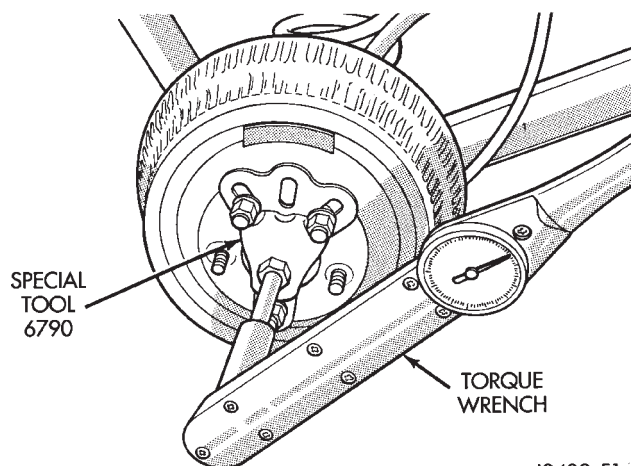

Fig. 6 Trac-loc Test
(1) Engine off, transmission in neutral, and parking brake off.
(2) Place blocks in front and rear of both front wheels.
(3) Raise one rear wheel until it is completely off the ground.
(4) Remove wheel and bolt Special Tool 6790 to studs.
(5) Use torque wrench on special tool to rotate wheel and read rotating torque (Fig. 6).